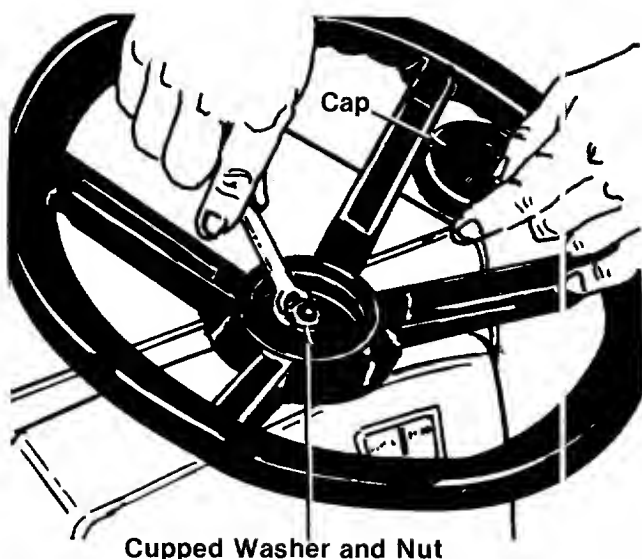

FIGURE 6.
4. Secure with cupped washer (cupped side against the steering wheel) and hex nut. See figure 6.